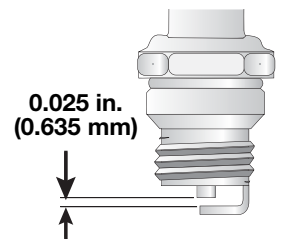

Fig. 34
4. Replace cracked, fouled or dirty spark plug. Set the air gap at 0.025 in. (0.635 mm) using a feeler gauge (Fig. 34).